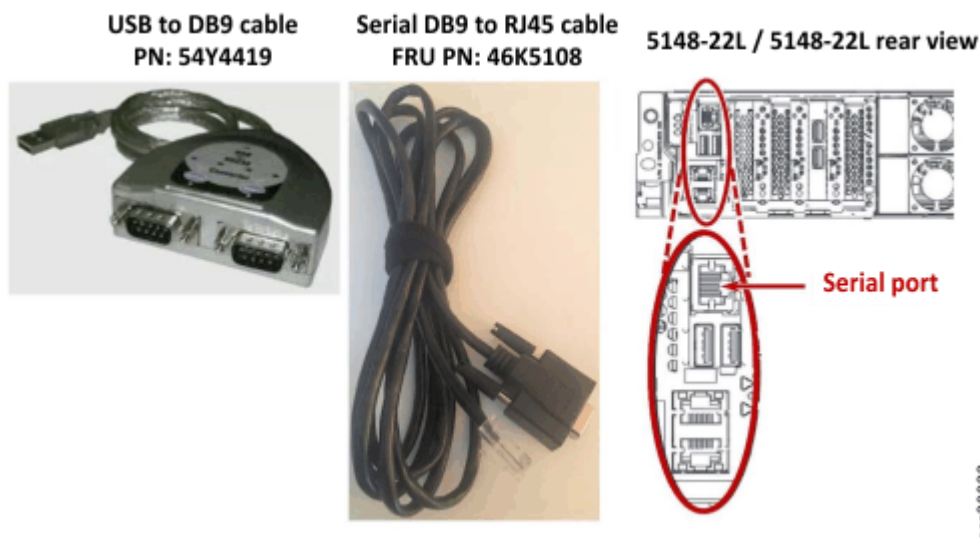

Figure 32. Connecting a laptop to the serial port in the EMS node
- The USB to RJ45 console cable shown in the Figure 32 on page 59 works for Linux and Windows laptops.